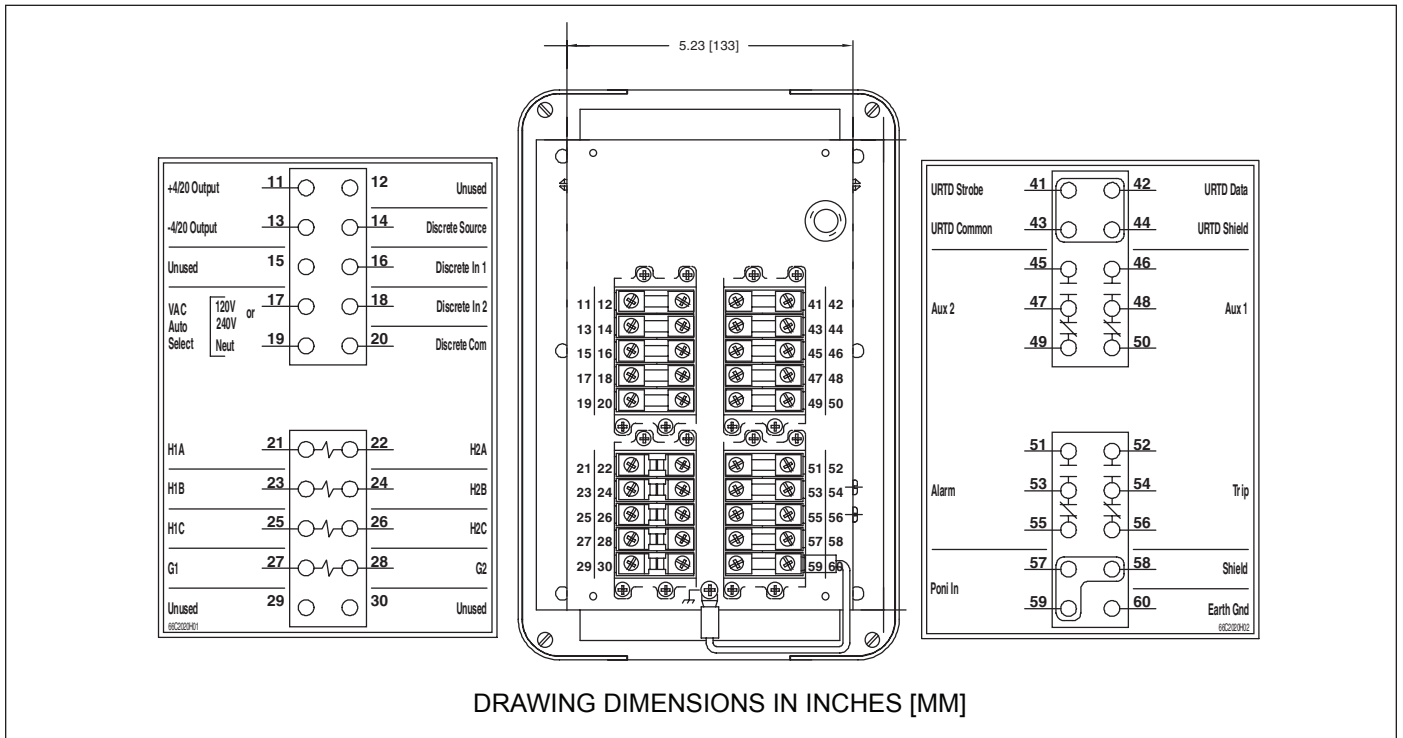

Figure 13.3 Rear View of MP-3000 Drawout Outer Case.
Figures 13.3 through 13.7 show the typical connection and wiring diagrams for the MP-3000 Drawout. Note the following:
2. Route the fiber optic cable through the grommeted hole in the back of the outer case. See Figure 13.3.